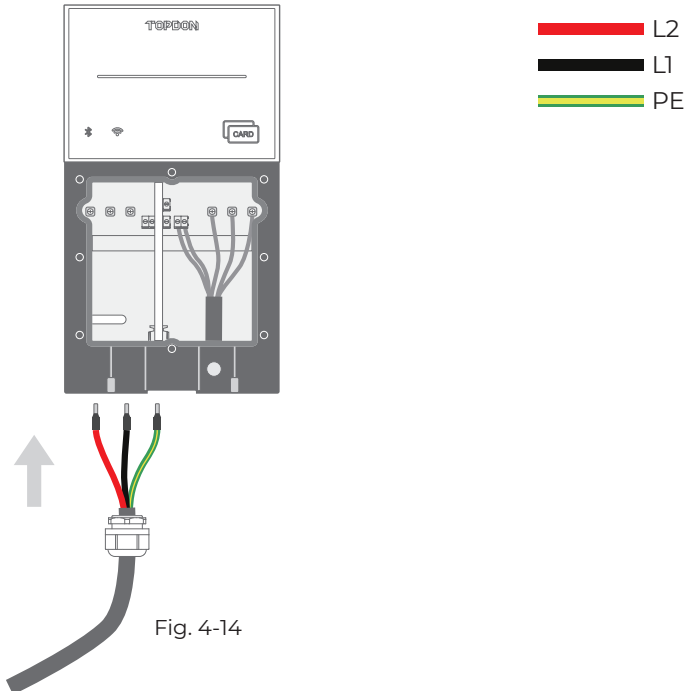

Fig. 4-14
5. Pass the crimped power cable through the hole. (See Fig. 4-14)